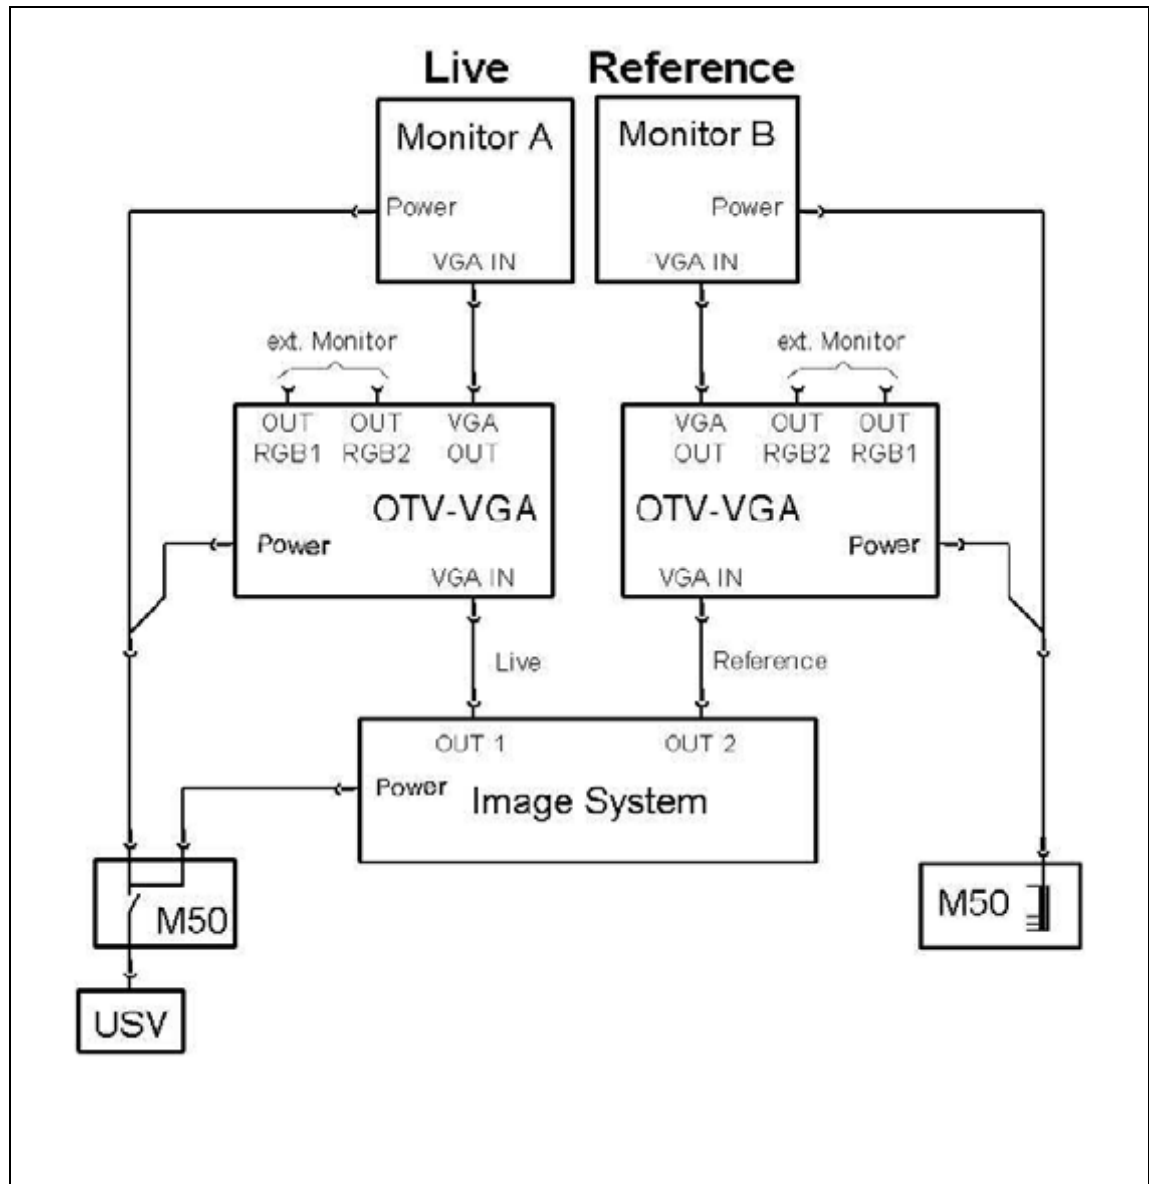

Fig. 5: Wiring diagram
12. Connect "VGA IN", "VGA OUT" and "Power" to the video splitter according to the wiring diagram (Fig. 5 / p. 9).